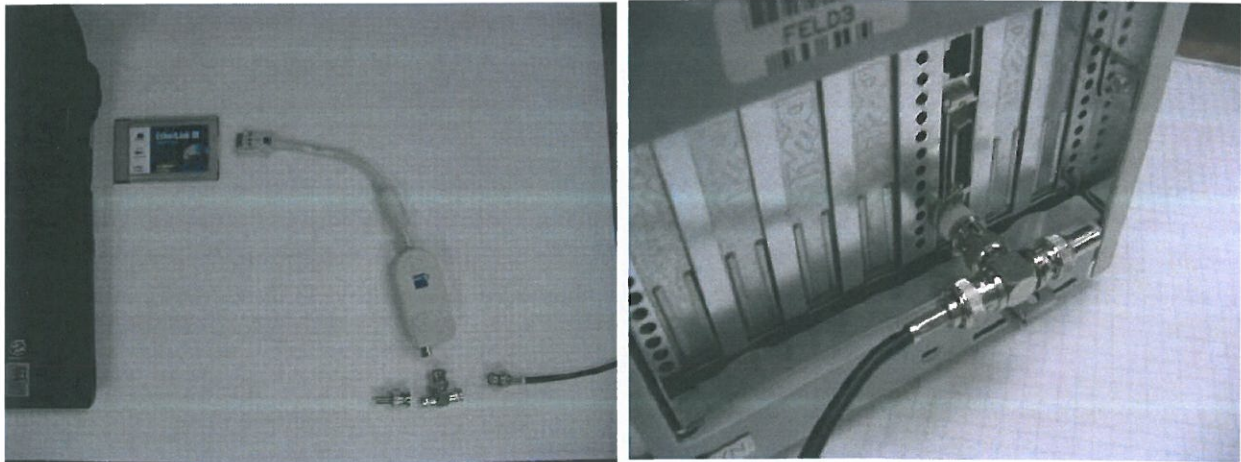

Figure 2: LAN "Dongle Adapter" connection and Network module connection
- ✓ LAN Network "Dongle Adapter": PCMCIA slot to Coax LAN cable (See Figure 2 below):